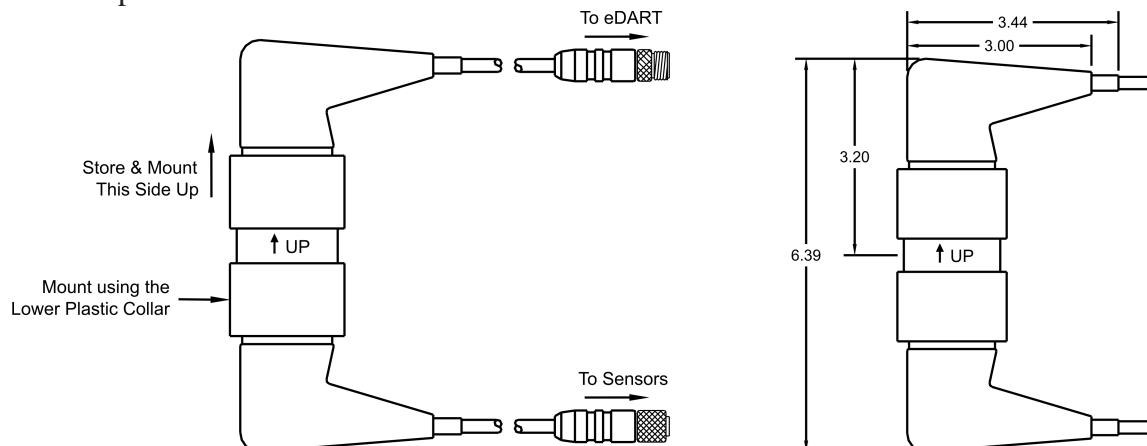

Figure 1: Slip Ring Dimensions and Mounting
Install by mounting the lower plastic collar to the moving mold table. The top half is left to rotate freely (see Figure 1). Connect the upper cable to the *eDART*™. Connect the lower cable to the Lynx sensors on the rotating cable.
- Because the contacts of the slip ring assembly are filled with mercury, it must be shipped, stored, and installed with the up arrow on the assembly pointing up (see Figure 1). If a special installation is required, contact RJG Customer Support.